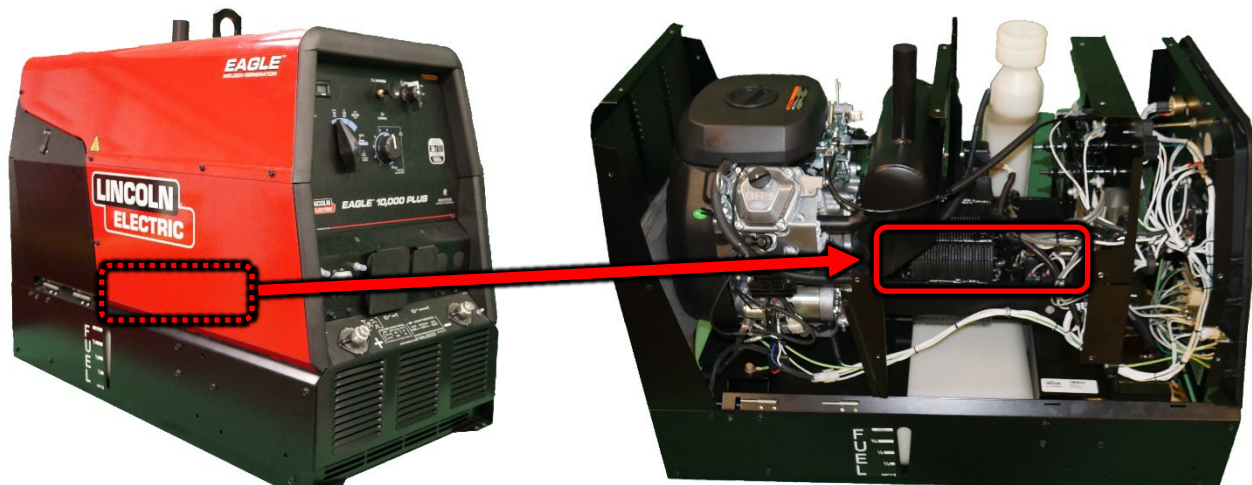

Figure F.1
1. For location of the Rotor refer to Figure F.1.